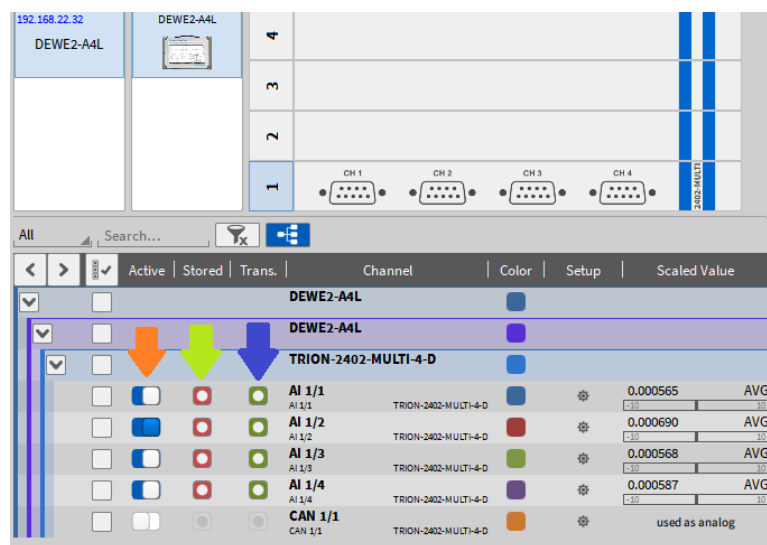

Fig. 15.17: Slave unit channels visible in the Master units' Channel List
Hardware channels from any Slave Unit can be configured from any Master Unit. This includes all simple and advanced channel settings except the *Stored* column (green arrow in Fig. 15.17) in the data channels overview. For Multi-Master systems this means, property changes of hardware channels on one Master Unit will automatically be implemented on every other Master Unit. To prevent communication conflicts, we strongly recommend configuring these settings on only one Master Unit at a time.
- **Active:** the slider marked with an orange arrow in Fig. 15.17 will activate or deactivate the data acquisition from a channel
- **Stored:** the red button marked with a green arrow in Fig. 15.17 will enable the storing of the data
- **Trans.:** the green button marked with a blue arrow in Fig. 15.17 will enable the data transfer from the Slave unit to the Master unit.